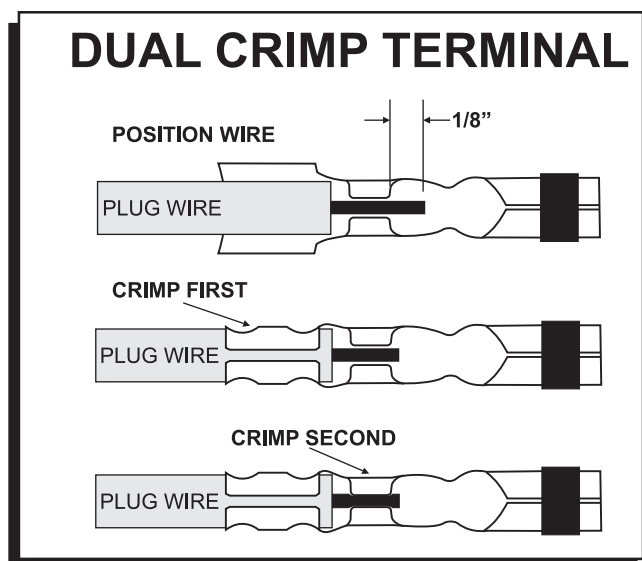

Figure 5 Crimping a Dual Crimp Terminal
1. After stripping the sleeve, position the wire in the terminal so the insulation protrudes about 1/8" beyond the insulation crimp tabs and the conductor extends about 1/8" past the conductor crimp tabs (Figure 5).